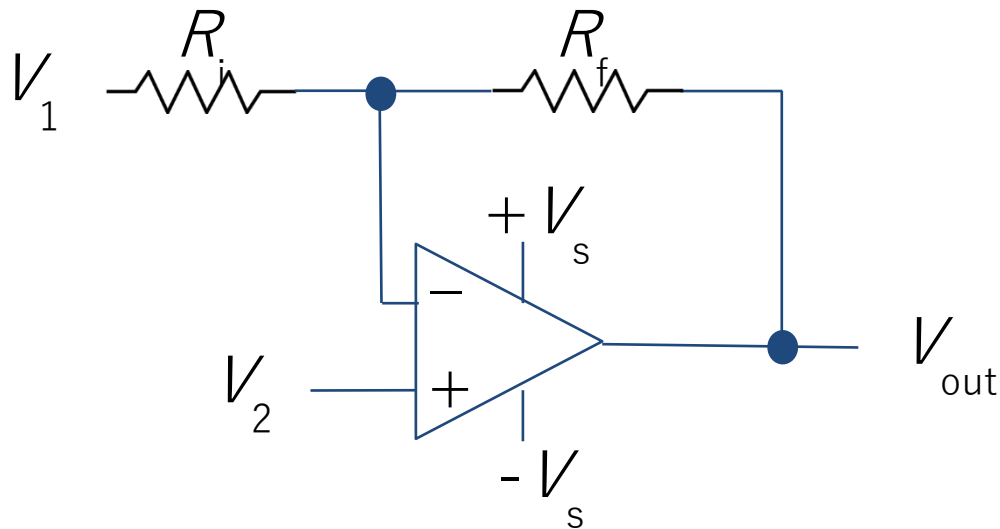

Fig. 1 Opamp gain and offset circuit
- In the following questions, you want to calibrate a linear sensor using the circuit in Fig. 1 so that its output range is 0 to 5V. Identify which of V1 and V2 will be the input voltage and which the reference voltage, the value of the reference voltage, and the value of R_f/R_i in each case. If the calibration can't be done with this circuit, explain why.